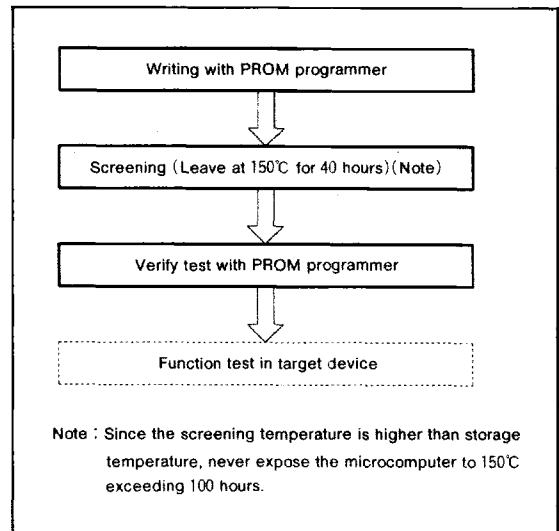

Fig. 76 Flow of writing and testing for products shipped in blank
(2) Notes on handling
- ① Sunlight and fluorescent lamp contain light that can erase written information. Be sure to cover the transparent glass portion with a seal or other similar materials except when erasing.
- ② Mitsubishi Electric corp. provides the seal for covering the transparent glass. Take care that the seal does not touch the lead pins.
- ③ Clean the transparent glass before erasing. Fingers' fat and paste disturb the passage of ultraviolet light and may affect badly the erasure capability.
- ④ A high voltage is used for writing. Take care that overvoltage is not applied. Take care especially at turning on the power.
- ⑤ For the One Time PROM version shipped in blank, Mitsubishi Electric corp. does not perform PROM writing test and screening in the assembly process and following processes. In order to improve reliability after writing, performing writing and test according to the flow shown in Fig. 76 before using is recommended. (Products shipped in blank : PROM contents is not written in factory when shipped)